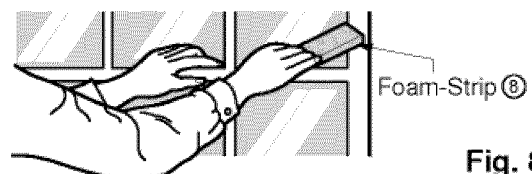

Fig. 8
- 11 Cut the Foam-Strip 8 to the proper length and insert between the upper window sash and the lower window sash. (See Fig. 8)